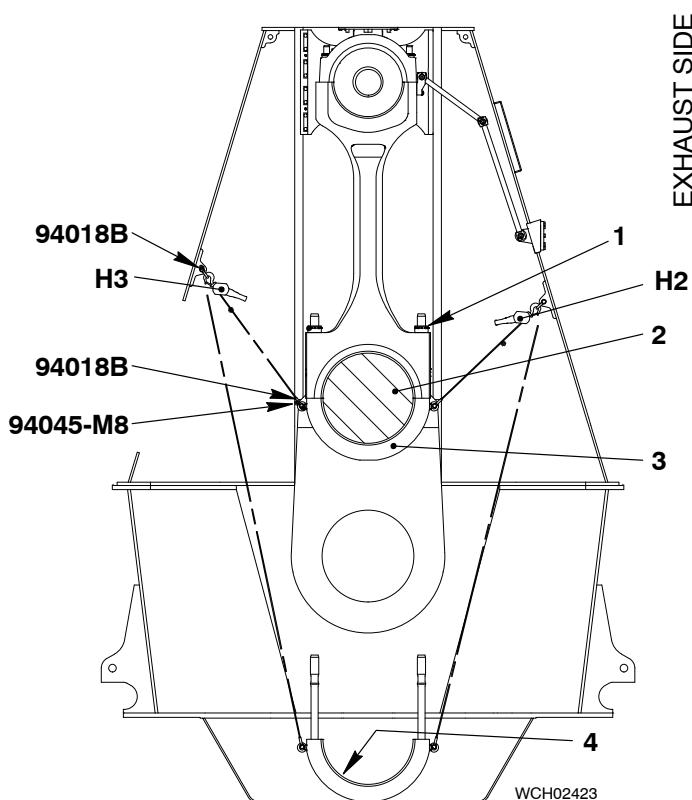

Fig. 1
- 1) Use the turning gear to turn the crankshaft until the applicable crank (2) is at TDC.
- 3) Attach the eye bolts (94045-M8, Fig. 1) to the bearing cover (3).
- 5) Connect the hooks and shackles (94018B) to the eye bolts on the bearing cover (3).